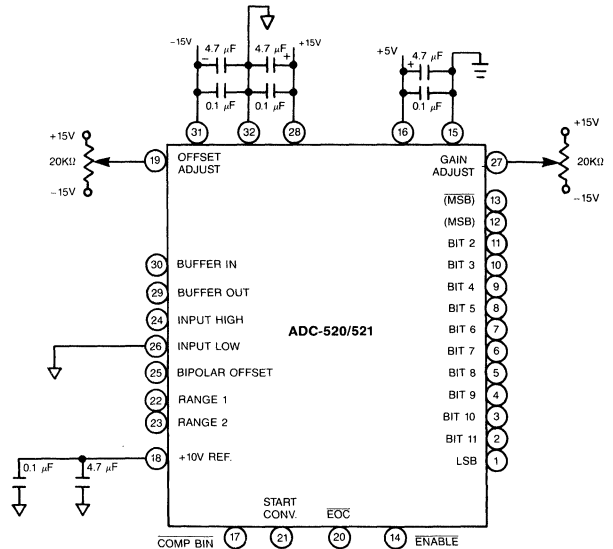

Figure 3. ADC-520, ADC-521 Calibration Circuit
1. Connect the converter per Figure 3 and Tables 2a and 2b for the appropriate full-scale range (FSR). Apply a pulse of 50 nanoseconds minimum to the START CONVERT input (pin 21) at a rate of 500 KHz. This rate reduces flicker if LED's are used on the outputs for calibration purposes.